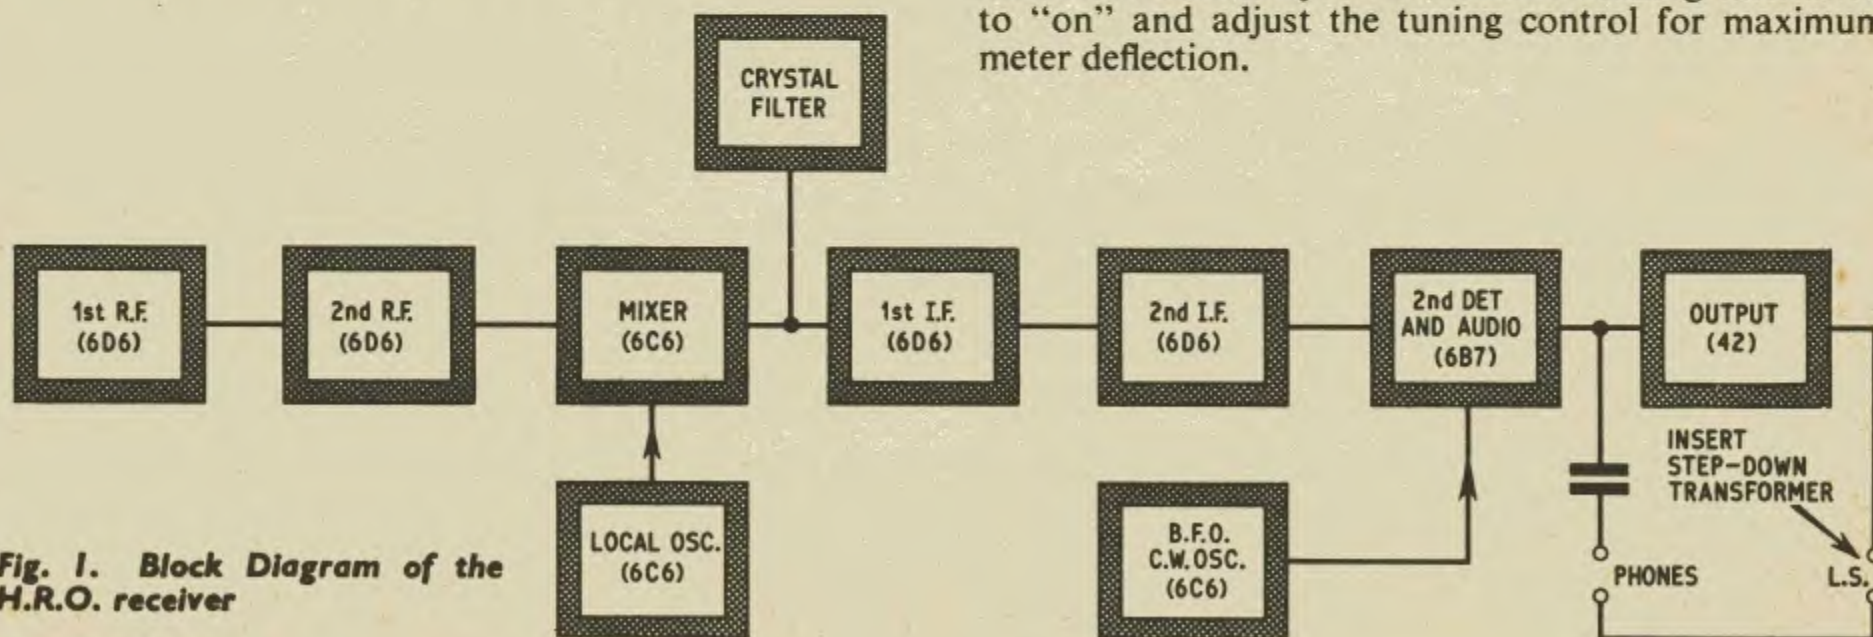
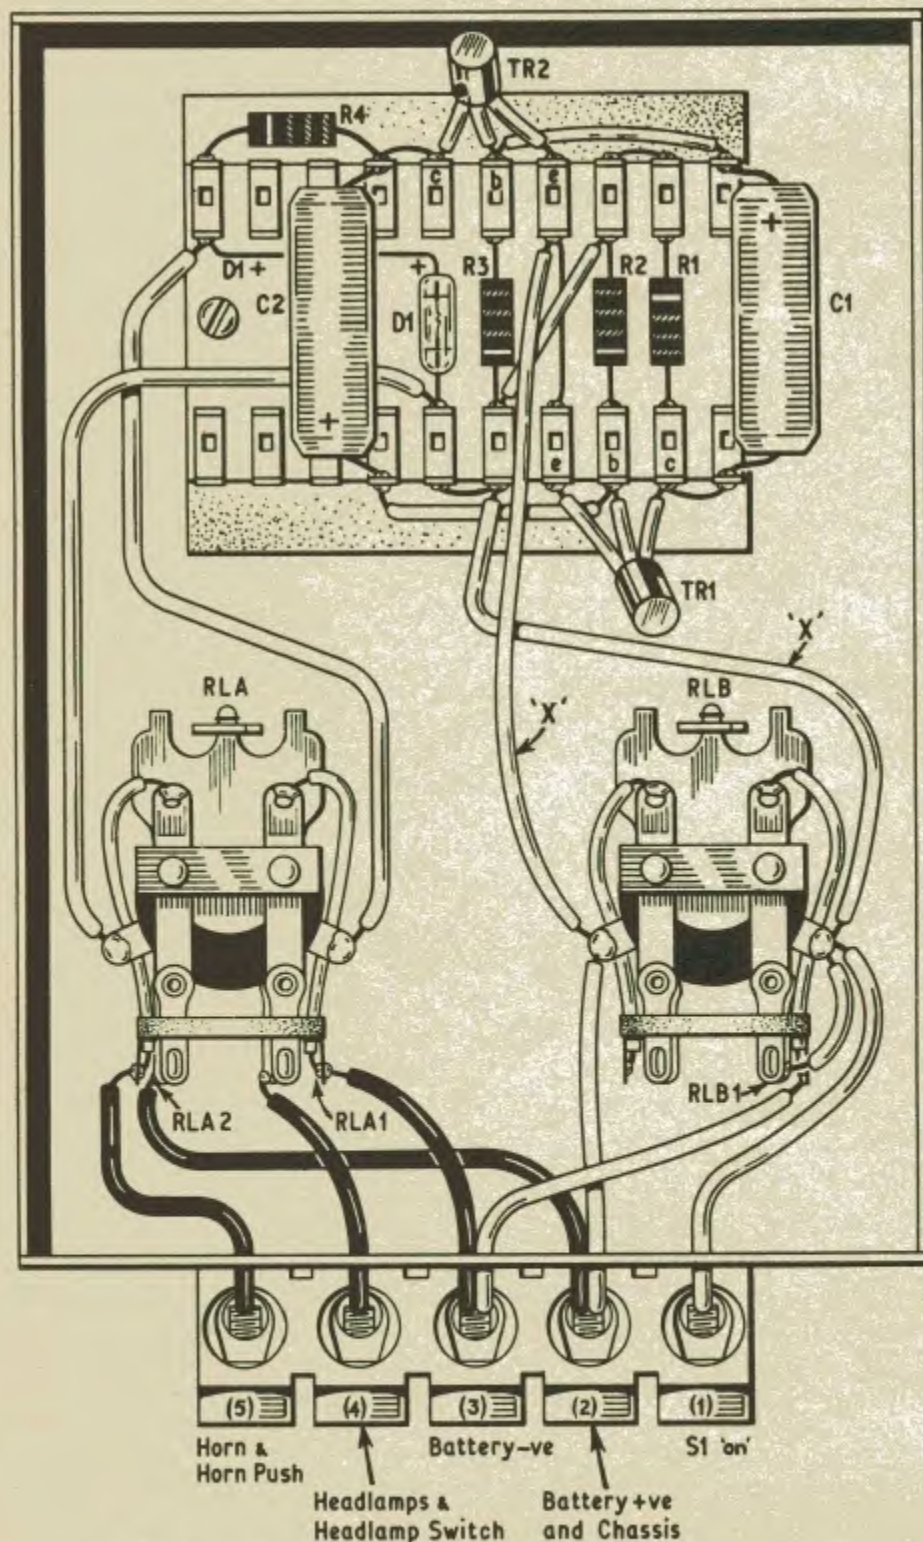

Fig. 1. Block Diagram of the H.R.O. receiver
Fig. 2. Layout and wiring of the alarm unit
Referring to the circuit diagram (Fig. 1) all switches and relay contacts are shown in the normal quiescent condition. When the driver leaves his car he should switch off the ignition first before operating the "alarm set" switch S1. The ignition coil is disconnected from the petrol pump by S1, and connected to relay RLB and the negative rail of the multivibrator via terminal (1). Relay RLB is operated as soon as the ignition switch is closed or when battery negative is connected to the ignition coil. RLB1 closes to maintain the battery supply to the relay coil and the multivibrator, even if the ignition is switched off again.
Fig. 1. Circuit diagram of the anti-theft alarm unit for use on 12 volt positive earth systems (see text). The terminal numbers in brackets refer to those shown in Fig. 2
Being basically a simple circuit, the multivibrator and relays can be housed in a box, which would be hidden or disguised so that it is not easily recognisable. A suitable housing, shown in the photograph, is an aluminium chassis which can be fitted with a cover plate. The layout and wiring is shown in Fig. 2. The terminal connections are numbered to correspond with those in Fig. 1.
Some of the wiring will be called upon to carry a heavy current, mainly the leads to headlamp and horn switches. These should be 40/0076 since the current is expected to be between 7 and 10 amperes. Similarly, the appropriate wires inside the box should be of the same rating. These are the connections between RLA1, RLA2 contacts and the terminal strip, and are shown in Fig. 2 as thick black wires. The terminal strip should be rated at 10 or 15 amperes.